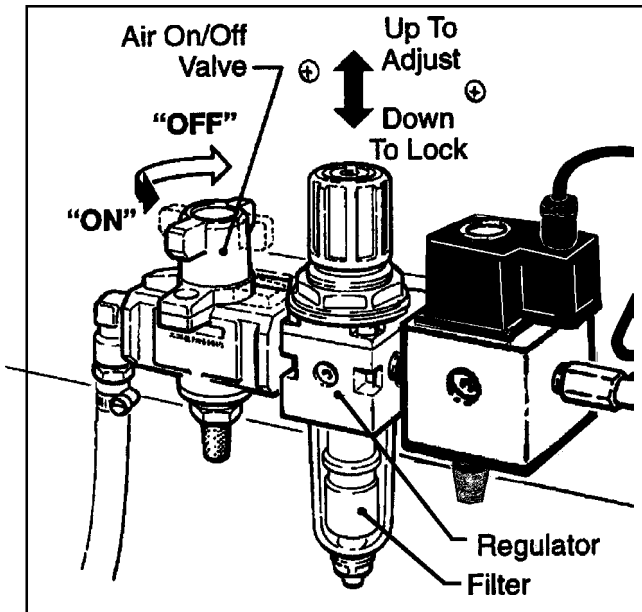

Figure 3-3 – "On/Off" Valve/Regulator/Filter
② Main Air "On/Off" Valve/Pressure Regulator/Filter – Figure 3-3